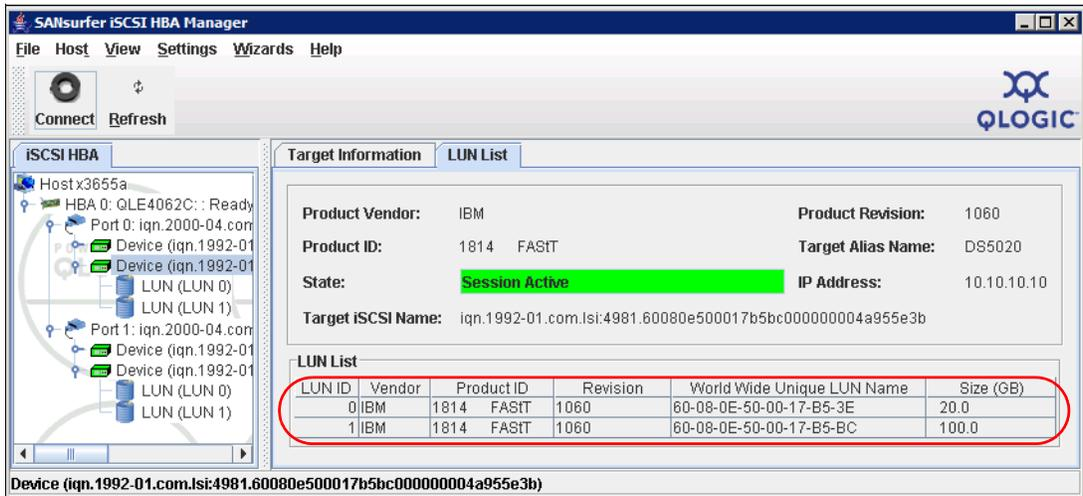

Figure 3-37 Viewing mapped LUNs at the host
12. Confirm that the logical volumes mapped are recognized by the host, as shown in Figure 3-37.